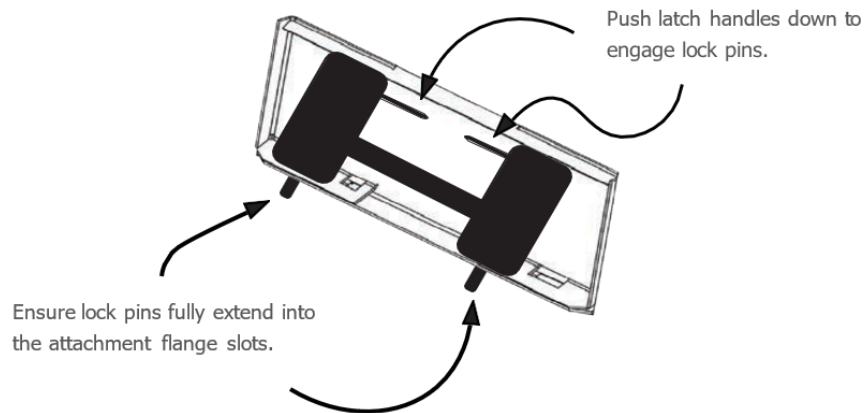

FIGURE 3.2B QUICK ATTACH MECHANISM LOCKED TO ATTACHMENT PLATE
4. Activate your skid steer's lever lock switch to lock the pins into the flange slots of the brush cutter's attachment plate. If your skid steer does not have this switch, manually lock the levers as shown in Figure 3.2b below.